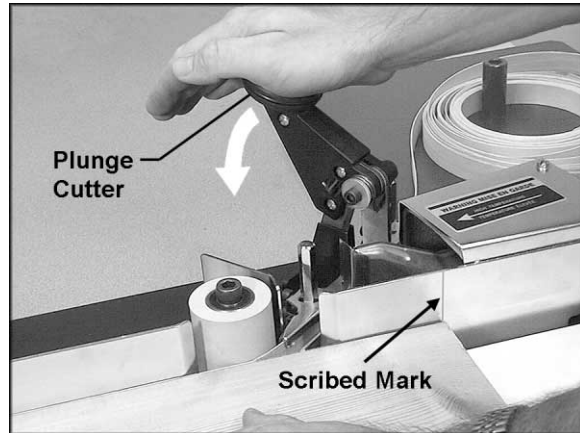

Figure 14
12. When the trailing end of the workpiece lines up with the scribed mark on the infeed fence, push down on the plunge cutter firmly and rapidly to sever the edge banding material. See Figure 14.